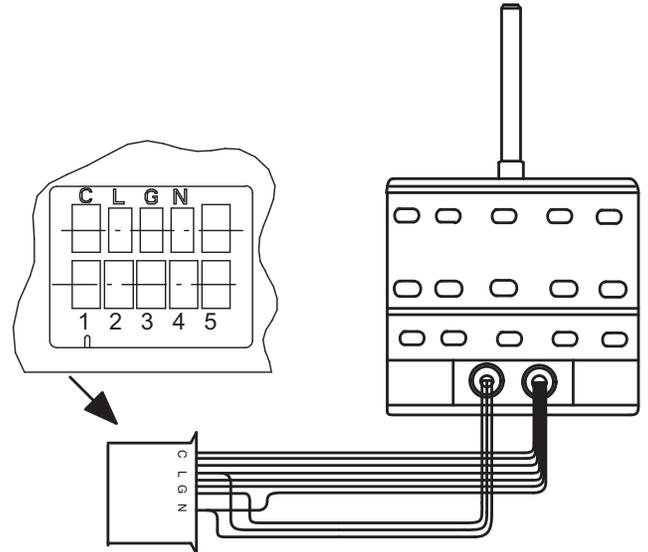

Fig. 8 – FMA4X ECM Motor Speed Taps
- At the motor connection plug connect the green wire to the desired motor tap number indicated on the motor plug (Fig. 8).